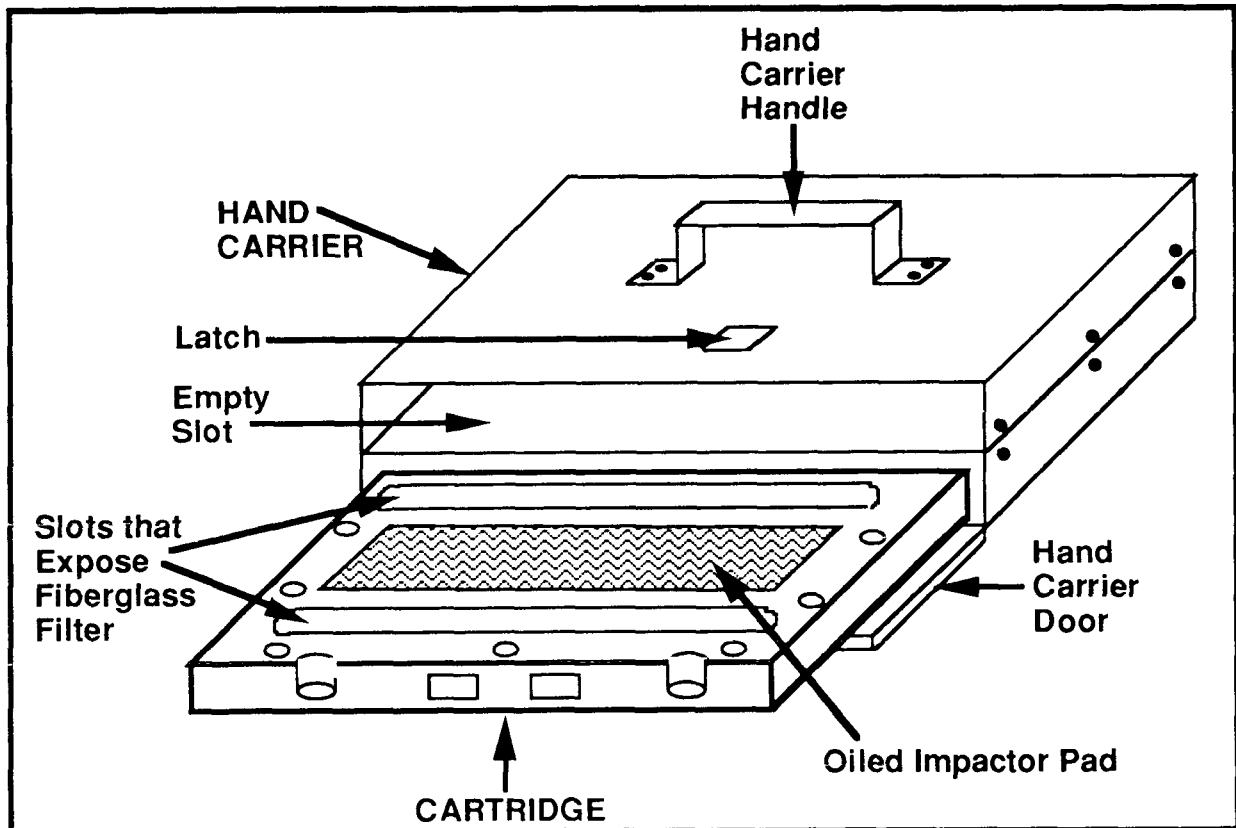

Figure 3, Cartridge and Hand Carrier
**NOTE** *Figure 3, Cartridge and Hand Carrier, shows the parts of the cartridge and hand carrier.*